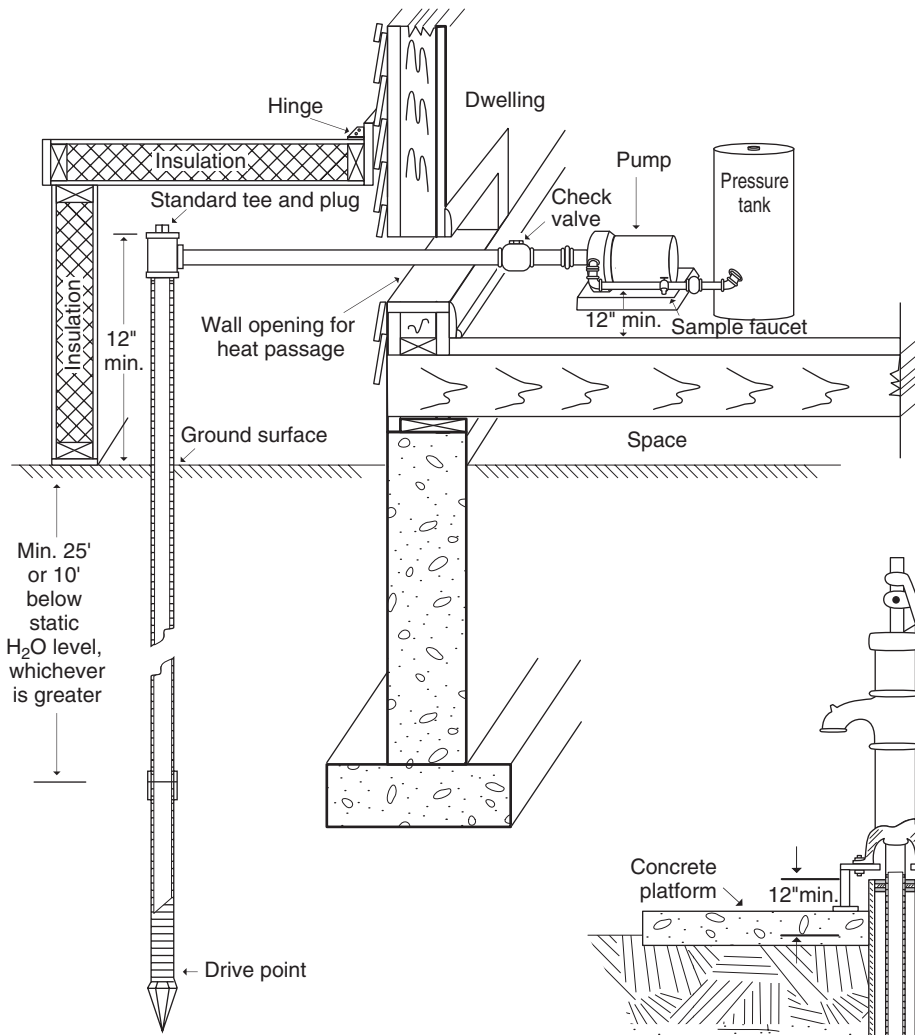

Figure 6.
- ▼ Outside, protected with an insulated structure (Figure 6).